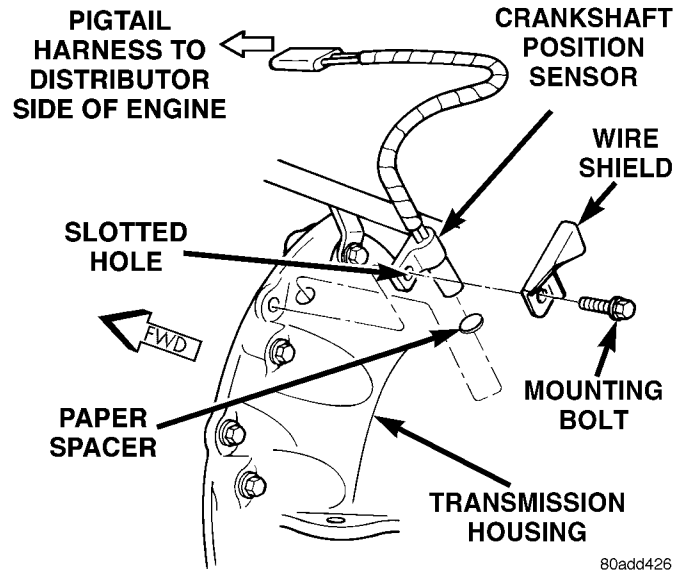

Fig. 31 Crankshaft Position Sensor—4.0L 6-Cylinder Engine
The crankshaft position sensor is mounted to the transmission bellhousing at the left/rear side of the engine block (Fig. 31). The sensor is **adjustable** and is attached with one bolt. A wire shield/router is attached to the sensor (Fig. 31).
- (1) New Sensors: Be sure paper spacer is installed to bottom of sensor. If not, obtain spacer PN05252229.
- (2) Used Sensors: Clean bottom of sensor and install spacer PN05252229.
- (3) Install sensor into transmission bellhousing hole.
- (4) Position sensor wire shield to sensor (Fig. 31).
- (5) Push sensor against flywheel/drive plate. With sensor pushed against flywheel/drive plate, tighten mounting bolt to 7 N·m (60 in. lbs.) torque.